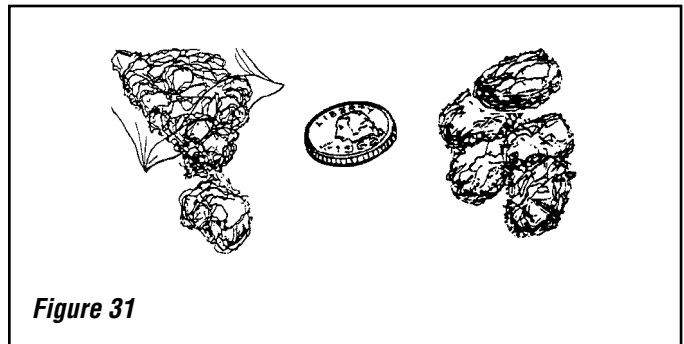
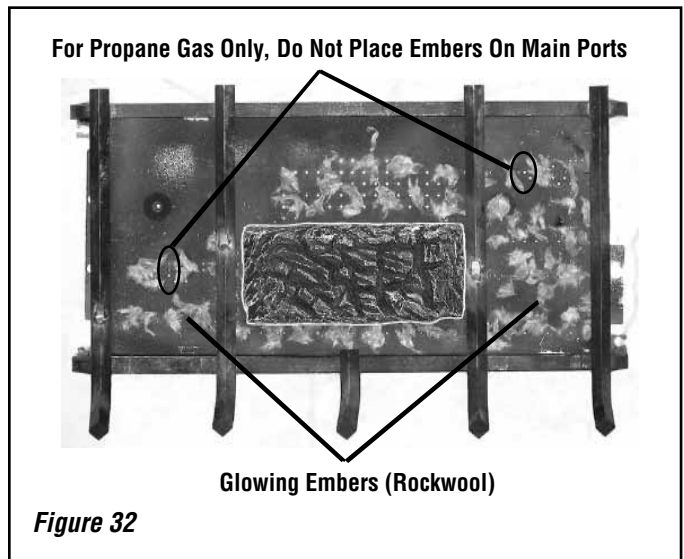

Figure 31
Figure 32
Step 3. Separate the glowing embers (rockwool) into pieces about the size of a quarter (see *Figure 31*). Keep the pieces fluffed, not matted. Distribute these pieces over the burner as shown in *Figure 32*. Do not use more than necessary. When properly positioned, the Glowing Embers will cover approximately 75% of the burner on natural gas. For propane gas, do not place embers on main ports.